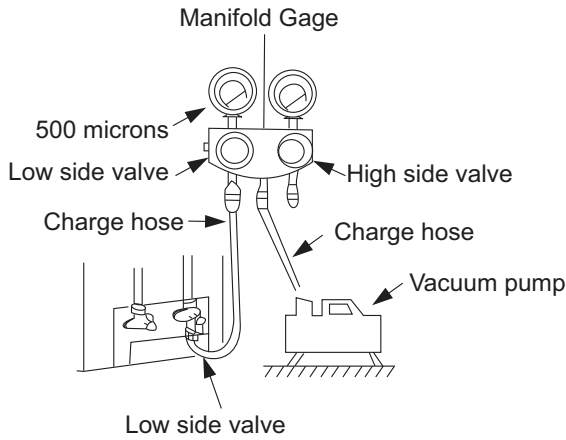

Fig. 29 - Manifold
3. Fully open the low side of manifold gage. (See Fig. 29.)